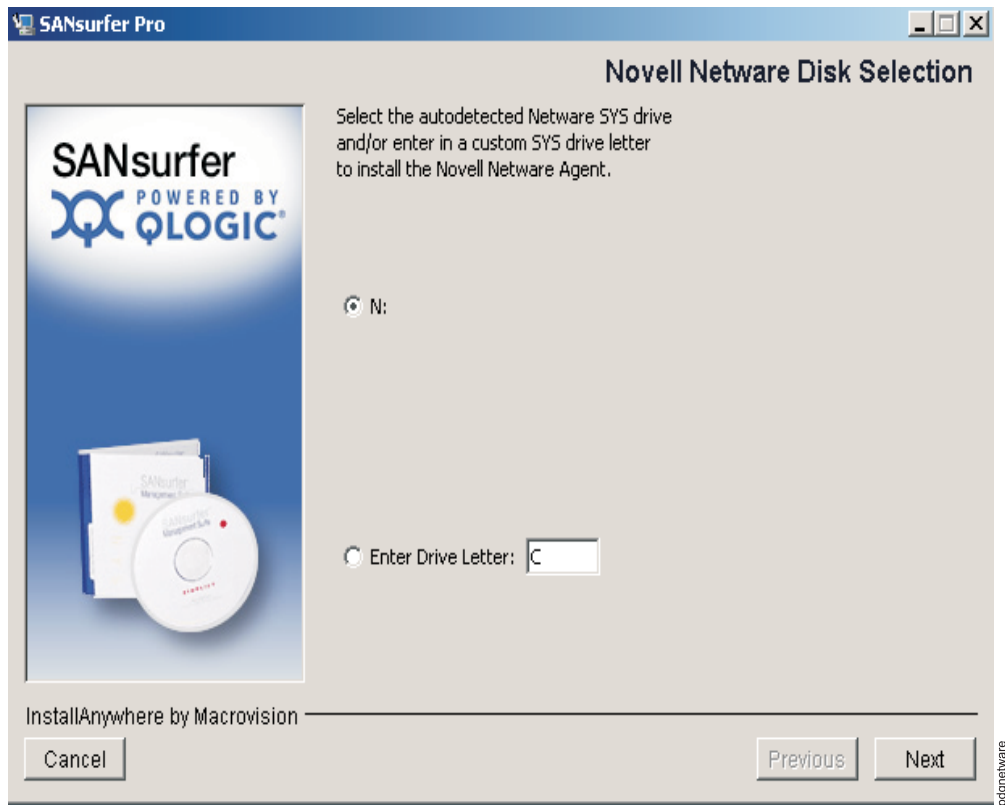

Figure 11. Novell NetWare Disk Selection window
- In the Novell NetWare Disk Selection window, type the drive letter in the **Enter Drive Letter** field, and then click **Enter Drive Letter**. For example, in Figure 11 type C in the **Enter Drive Letter** field, and then click **Enter Drive Letter**.